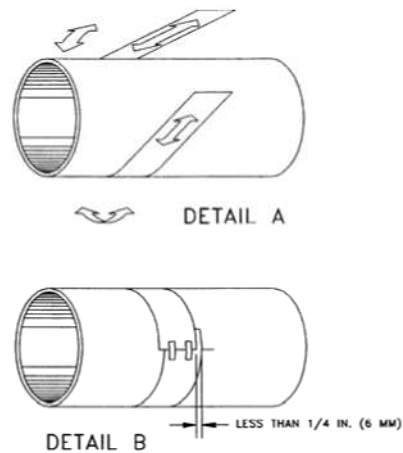

Figure 2.7
1. Wrap the paper around the pipe in the manner shown in **Figure 2.7**. Align the paper ends to within 0.25 inches (6mm).